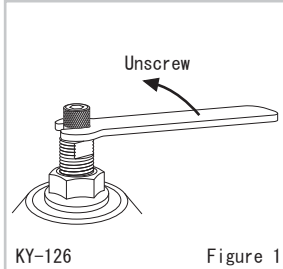

Figure 1
- Remove the click by turning counter-clockwise with the black 8mm spanner wrench included in the motor kit. (Figure 1)